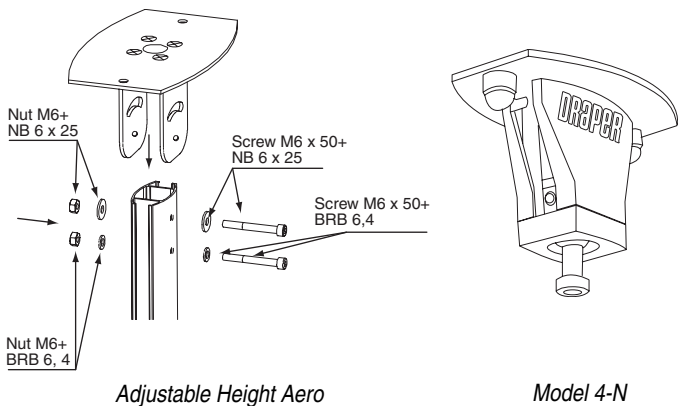

Figure 2
- ② Connect column assembly to mounting plate using appropriate hardware (provided—see Fig. 2). Aero Model 4-N comes pre-assembled.